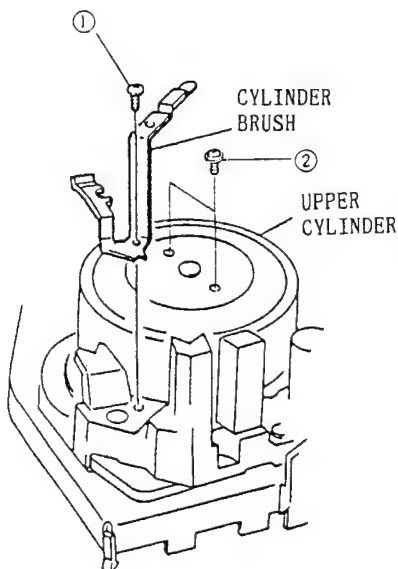
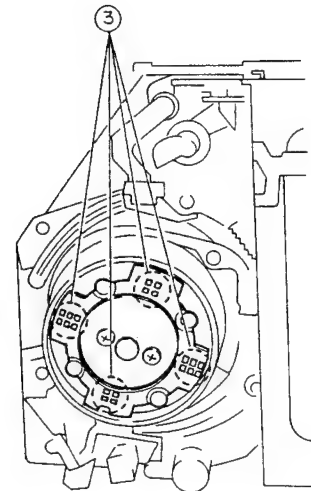

Fig. 2-54
Fig. 2-55
1. Remove one (1) screw holding the cylinder brush. (See Fig. 2-54)
2. Remove two (2) screws holding the upper cylinder.
3. Unsolder eighteen (18) points on the upper cylinder and pull out the upper cylinder from the lower cylinder. (See Fig. 2-55)